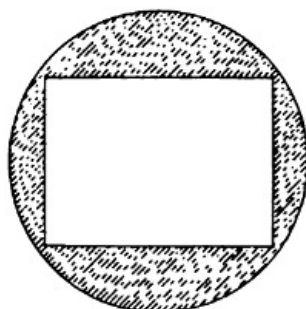

FIGURE 23.
Two errors are very common in the computation of the light intensity for a given picture: (1) the length of throw governs the amperage; and (2) the amperage depends upon the actual space to be illuminated. Apparently only an oblong square of exactly the proportions of the aperture in the machine is illuminated, but in reality the light must be spread out so that its total illumination covers a circle enclosing the actual visible picture. This is illustrated in Figure 23 where the enclosed oblong square represents the space illuminated on the screen and the circle represents the area over which the light must be spread. The portion shown by shading is nearly equal to the clear portion and shows that half of the light is wasted since it is blocked out by the cooling plate in the machine or the framework of the slides. With increasing size of picture, the light is, however, diminished in proportion to the area of the circle and not in proportion to the area of the picture. If, for instance, the picture were to retain its width and be reduced in height by one half, or even more, there would still be about the same quantity of illumination required. For this reason we have, in Table I, given only the maximum dimension of the picture and have based the amperage calculation upon the area of the circle which encloses the picture.